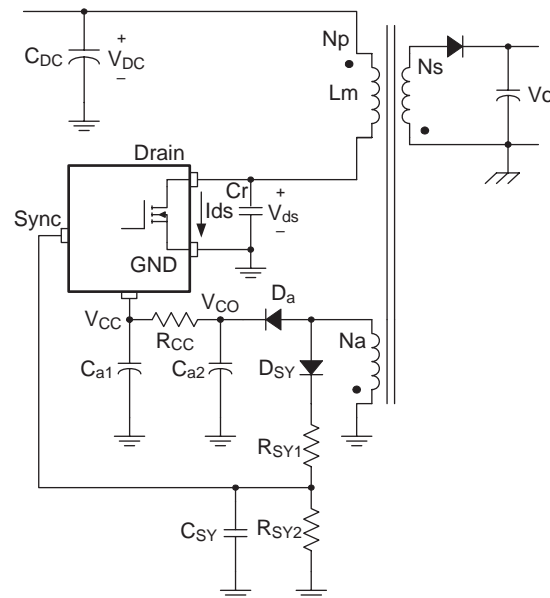
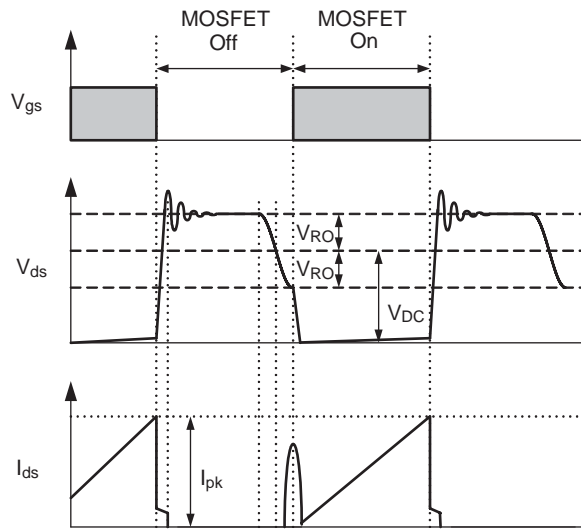
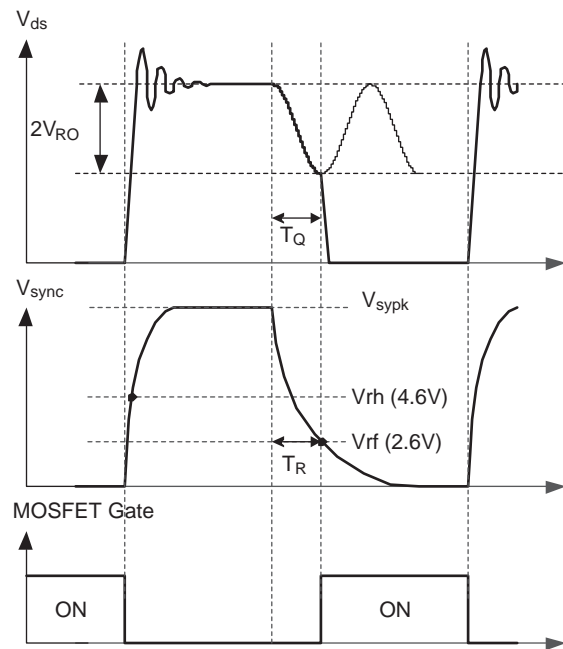

Figure 6. Synchronization Circuit
Figure 7. Quasi-Resonant Operation Waveforms
Figure 8. Normal Quasi-Resonant Operation Waveforms
2. Synchronization: The FSCQ-Series employs a quasi-resonant switching technique to minimize the switching noise and loss. In this technique, a capacitor (C_r) is added between the MOSFET drain and the source as shown in Figure 6. The basic waveforms of the quasi-resonant converter are shown in Figure 7. The external capacitor lowers the rising slope of the drain voltage to reduce the EMI caused when the MOSFET turns off. To minimize the MOSFET's switching loss, the MOSFET should be turned on when the drain voltage reaches its minimum value as shown in Figure 7.
The minimum drain voltage is indirectly detected by monitoring the V_{CC} winding voltage as shown in Figure 6 and 8. Choose voltage dividers, R_{SY1} and R_{SY2}, so that the peak voltage of the sync signal (V_{syPk}) is lower than the OVP voltage (12V) to avoid triggering OVP in normal operation. It is typical to set V_{syPk} to be lower than OVP voltage by 3–4V. To detect the optimum time to turn on MOSFET, the sync capacitor (C_{SY}) should be determined so that T_R is the same with T_Q as shown in Figure 8. The T_R and T_Q are given as, respectively: